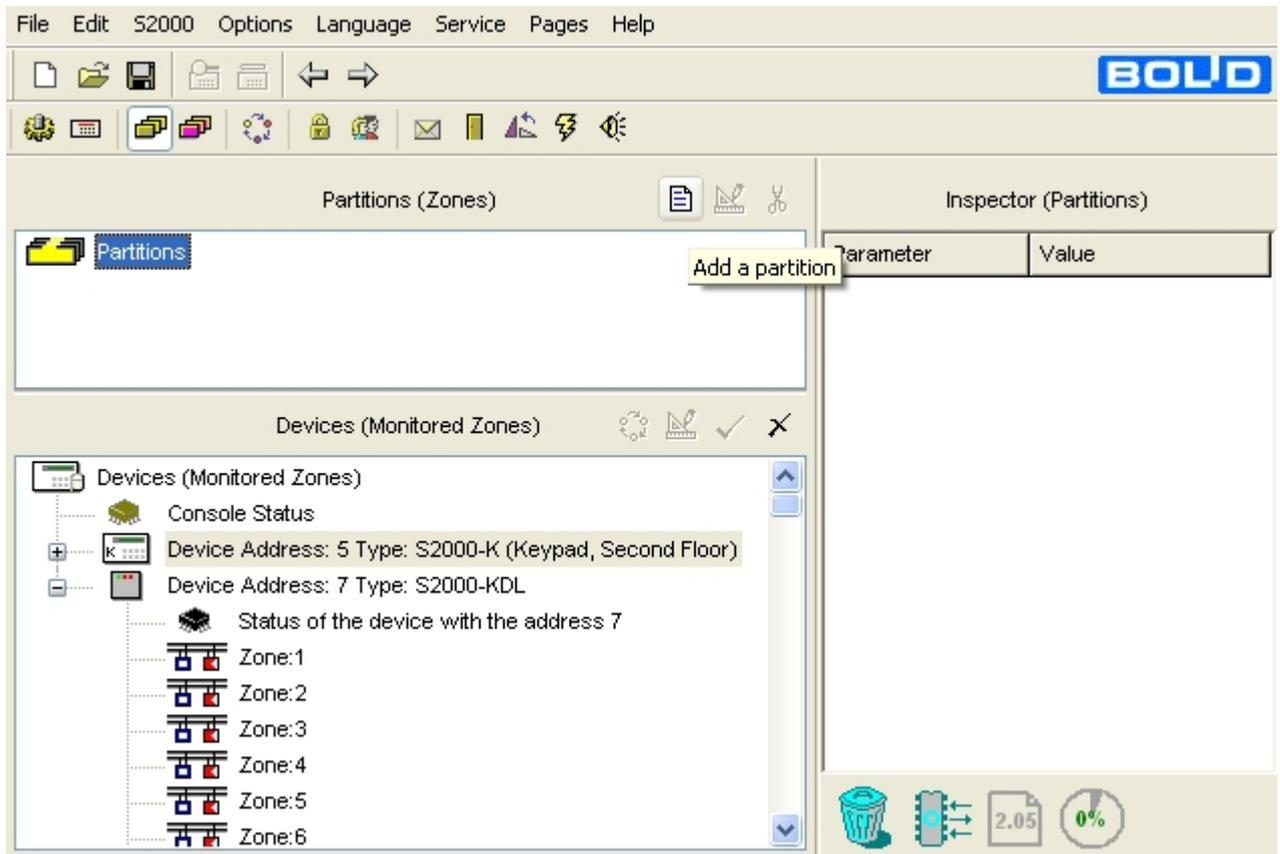

Figure 7
To control partitions by the combined way of authorization/control, firstly assign the controlled partition (partitions) to a device whose reader will be used for user authentication. (In our example it will be the S2000-KDL – see Figure 7.) Then select the device in the Device Rights window and define its "Link a Reader to" parameter in the Inspector window specifying the S2000-K in question as the device which is supposed to control partitions after user authentication by means of presenting access device to the reader of the specified S2000-KDL.
1. Select the *Partitions* tab by pressing  on the Page Icon Toolbar, or browsing pages by arrow buttons on the Quick Access Toolbar, or activating the Pages→Partitions→Partitions menu command. Add a new partition descriptor by clicking  (see Figure 7).